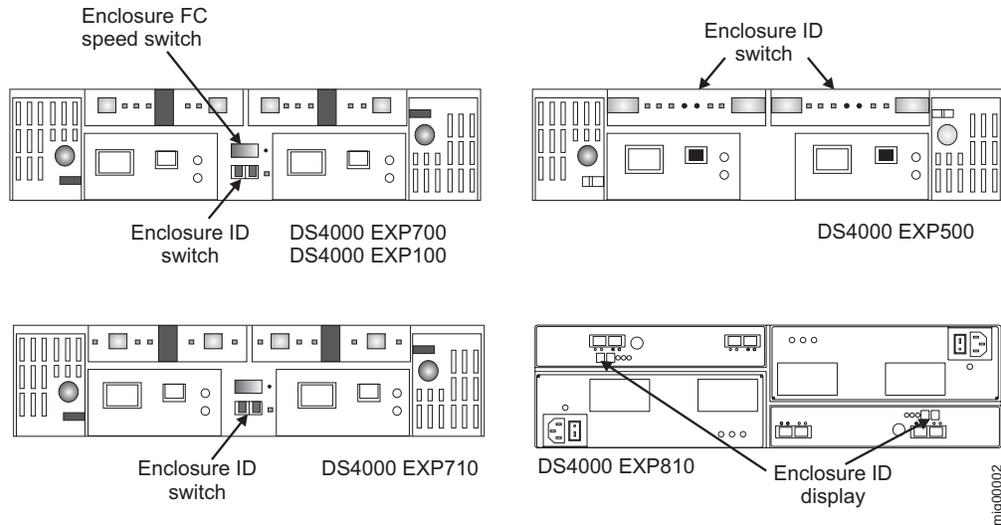

Figure 23. EXP100, EXP500, EXP700, and EXP710 enclosure ID and speed switches
- \_\_\_ Step 4. Set the enclosure ID of the additional storage expansion enclosures. Each drive enclosure in the DS4000 Storage Subsystem drive loop must have a unique drive enclosure ID. In a EXP500 storage expansion enclosure, there is an enclosure ID switch mounted on each of two ESM canisters. Set each ESM canister’s enclosure ID switch in the EXP500 drive enclosure to the same unique number in the drive loop. In EXP100, EXP700, and EXP710 storage expansion enclosures, there is only one enclosure ID switch, which is mounted between the power supplies. The EXP810 does not have a physical switch setting for the enclosure ID. Instead it has a display that shows its enclosure ID. The controller firmware automatically sets the enclosure ID. However, you can change the enclosure ID by using the DS4000 Storage Manager Client program. See the appropriate *DS4000 Installation, User’s, and Maintenance Guide* for the particular storage expansion enclosure for additional information. Figure 23 on page 74 illustrates the location of enclosure ID switches on the EXP100, EXP700, EXP710, and EXP500 storage enclosures.